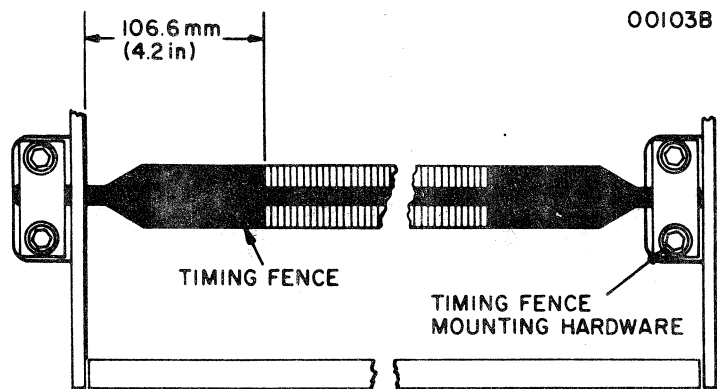

Figure 3-7. TIMING FENCE ADJUSTMENT
1. Loosen four screws (4) from left and right timing fence mounting brackets (2, 7) and remove fence.
C. ADJUSTMENTS (Refer to Figure 3-7)
1. Loosen four screws (4) and adjust fence so that first window of fence is located 106.6 mm (4.2 inches) from the left frame.